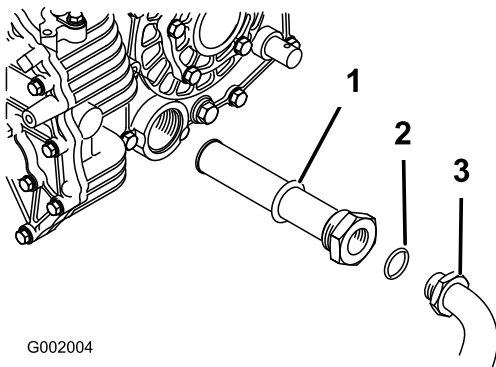

Figure 69
5. Remove the hydraulic hose and 90° fitting (Figure 69).